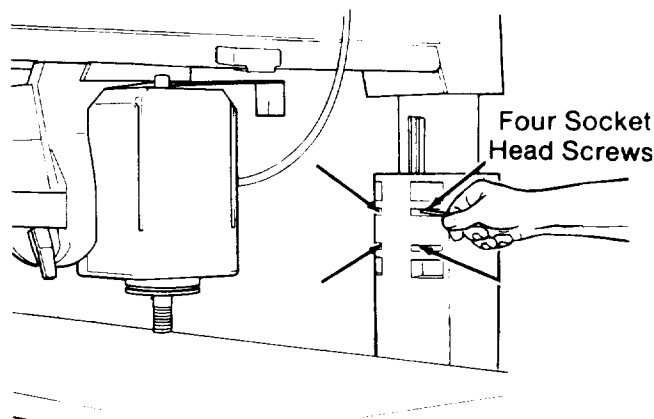

Fig. 75
1. Use a 3/16" hex “L” wrench to loosen the four screws in the front of the *column support*. (Figure 75)
3. If movement seems smooth and the *column* does not rock back and forth, use a 3/16" hex “L” wrench to retighten the four screws in the front of the *column support*. (Figure 75) Do not over tighten or it will be difficult to raise and lower the *radial arm*. After completing these steps, go on to the next section, or